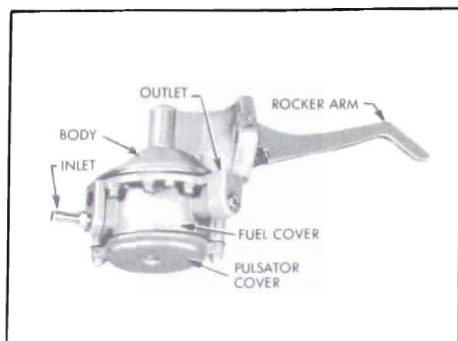

Figure 3-19—Location of Pump Parts
1. Mark edges of fuel cover and pump body with file so that cover may be reinstalled in its original position on body. See Figure 3-19.